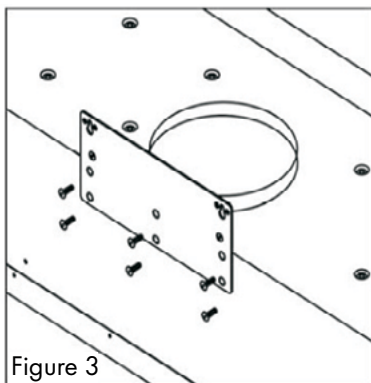

Figure 3
5. Using the six provided Mounting Bracket Screws, attach the bracket to the back of the hood, as outlined in Figure 3.